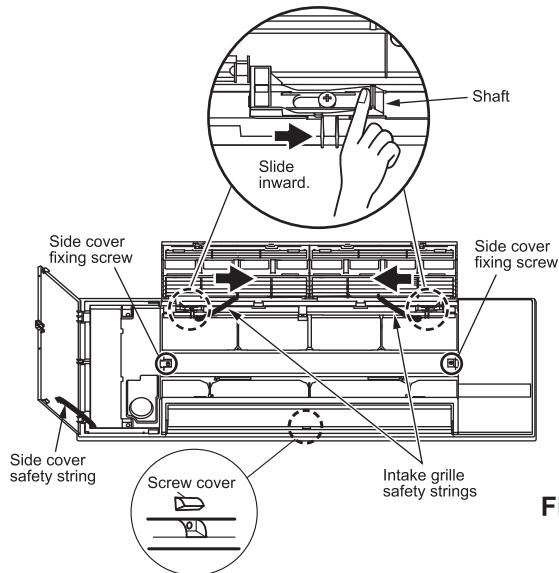

Fig. 3
3. Remove the screw cover at the center of the grille. (Fig. 3)